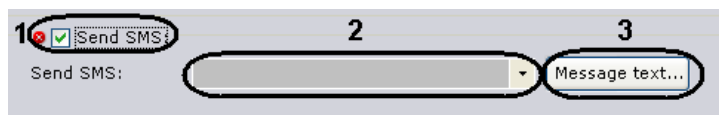

Fig. 6.4—34 Configuring SMS notification
1. Select the **Send SMS** check box (Fig. 6.4—34, 1).
2. From the **Send SMS** list (see Fig. 6.4—34, 2), select the **SMS** object which will be used for SMS notification when a detector is triggered.